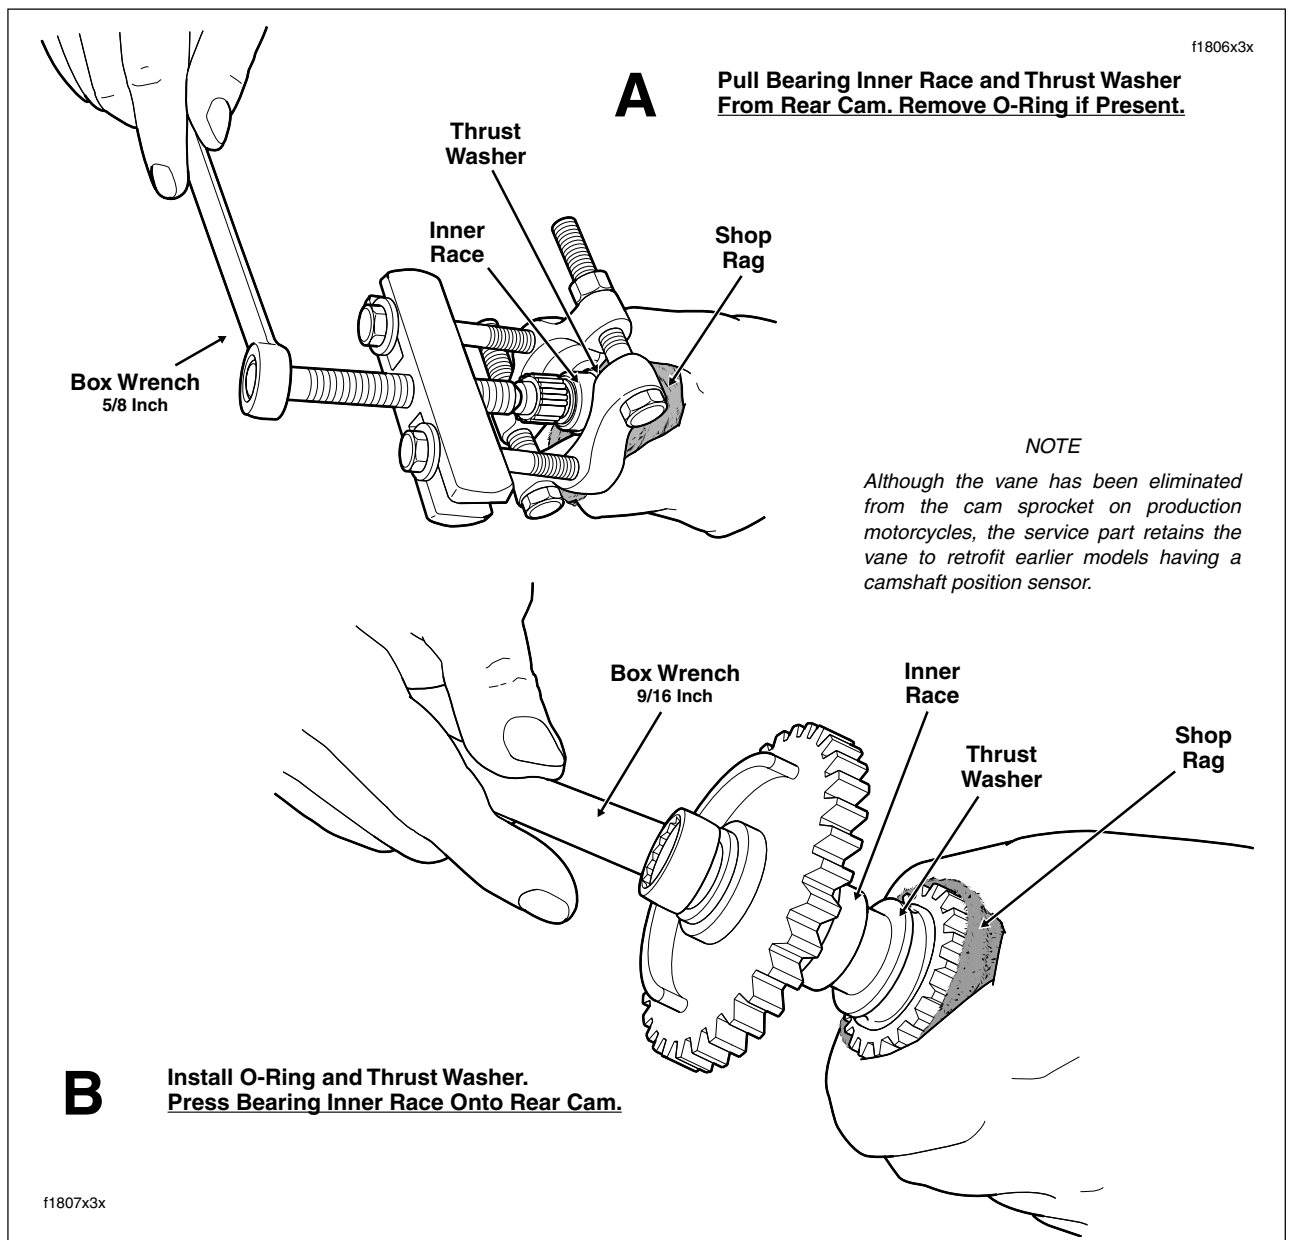

Figure 3-110. Remove/Install Bearing Inner Race (With O-Ring and Thrust Washer) Onto Rear Camshaft
- d. Using a 5/8 inch box wrench, turn forcing screw until bearing inner race and thrust washer are pulled free of camshaft. See A of Figure 3-110. A light interference fit allows the parts to be removed with little effort. Discard inner race and thrust washer.
- e. Wrap a shop rag around camshaft to get a firm grip and also to protect hand from sharp edges of sprocket. Using a 9/16 inch box wrench, turn flange bolt in a clockwise direction. Bearing inner race is fully installed when it makes firm contact with the thrust washer. See B of Figure 3-110.